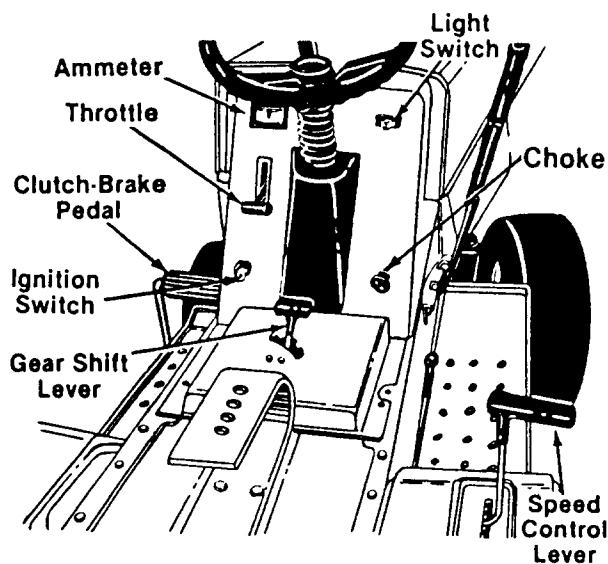

FIGURE 1
The throttle control is used to regulate the engine speed and to activate the choke on the engine. To get maximum efficiency from cutting, the throttle should be in the FAST position when operating the mower. See figure 1.
The gear shift lever is used to shift into "FORWARD", "NEUTRAL" or "REVERSE". See figure 1. The clutch-brake pedal must be depressed and the lawn tractor must not be moving when shifting gears. Do not force the shift lever. Release the clutch-brake pedal slightly to line up the shifting collar in the transmission. Then try to shift gears.
The choke control is located on the right side of the dashboard and is operated manually. Pull out choke control. Once engine starts, slowly push in the choke as the engine warms up. See figure 1.
Turn the key to the "START" position to start the engine. When the engine is running, let the key return to the "ON" position. To stop the engine, turn the key to the left to the "OFF" position and remove it to prevent accidental starting. See figure 1.
The speed control lever allows you to regulate the ground speed of the lawn tractor. See figure 1. It may be set in any one of seven positions. To set, depress clutch pedal. Push speed control lever downward and move backward to slow lawn tractor, move forward to increase speed. When desired speed has been obtained, release lever in that position. Whenever clutch is engaged, unit will automatically go to the pre-set speed.
Push the light switch to turn on the lights. The lights will only operate when the engine is running. See figure 1.
The ammeter registers the rate of battery charge or discharge. The ammeter will register on the discharging side when starting the engine. It should register on the opposite side (charging) when the engine is running in the fast position until the battery is complete charged. With a fully charged battery or with the engine idling, the ammeter will not show a charge. See figure 1.
The clutch-brake pedal is located on the left side of the lawn tractor. Depressing the clutch-brake pedal part way disengages the clutch. Pressing the pedal all the way down disengages the clutch and engages the disc brake. See figure 1.
- Place the blade engagement lever in the **DISENGAGED** position. See figure 1.
- Set the throttle control in the **FAST** position. See figure 1.
- Turn the ignition key to the **START** position. When the engine is running, let the key return to the "ON" position. See figure 1. Once the engine starts gradually move **CHOKER** to the **OFF** position.